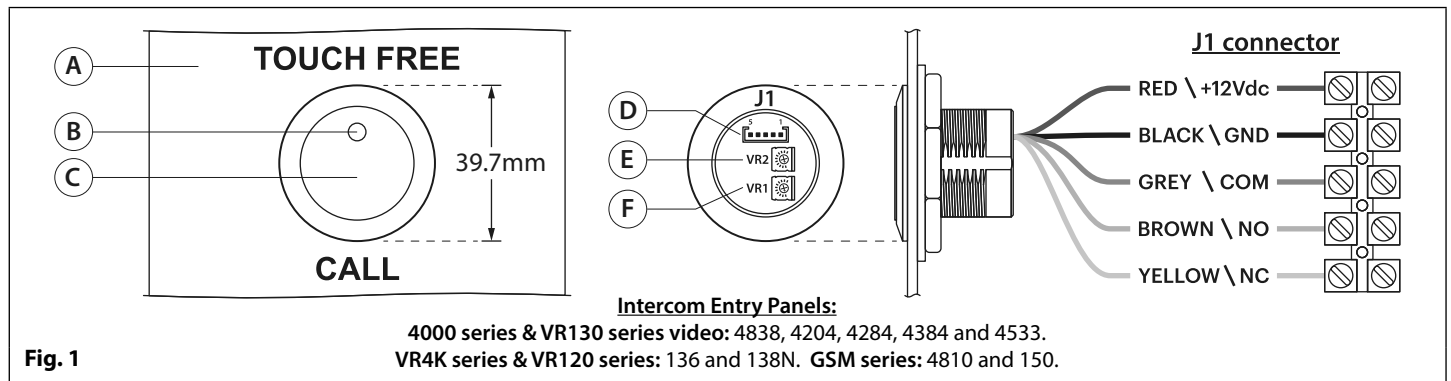

Fig. 1
The PBT-30IR is a panel mount touch free call button (**Fig.1**) that incorporates infrared sensor technology.
The touch free call button allows a user to safely make an intercom call to an office/home/apartment without the need to press a button by simply approaching the button sensor (**Fig.1** (C)) with their hand and activating the buttons relay output.
During standby the status LED (**Fig.1** (B)) will be illuminated red indicating the button has 12Vdc power, when the button is activated the status LED will change and illuminate blue.
The internal electronics are resin potted offering an additional layer of protection from the elements (IP65). It has a connector J1 (**Fig.1** (D)) with pre-coloured wires allowing connection for 12Vdc power and the relay output connections **COM, NO** and **NC**.